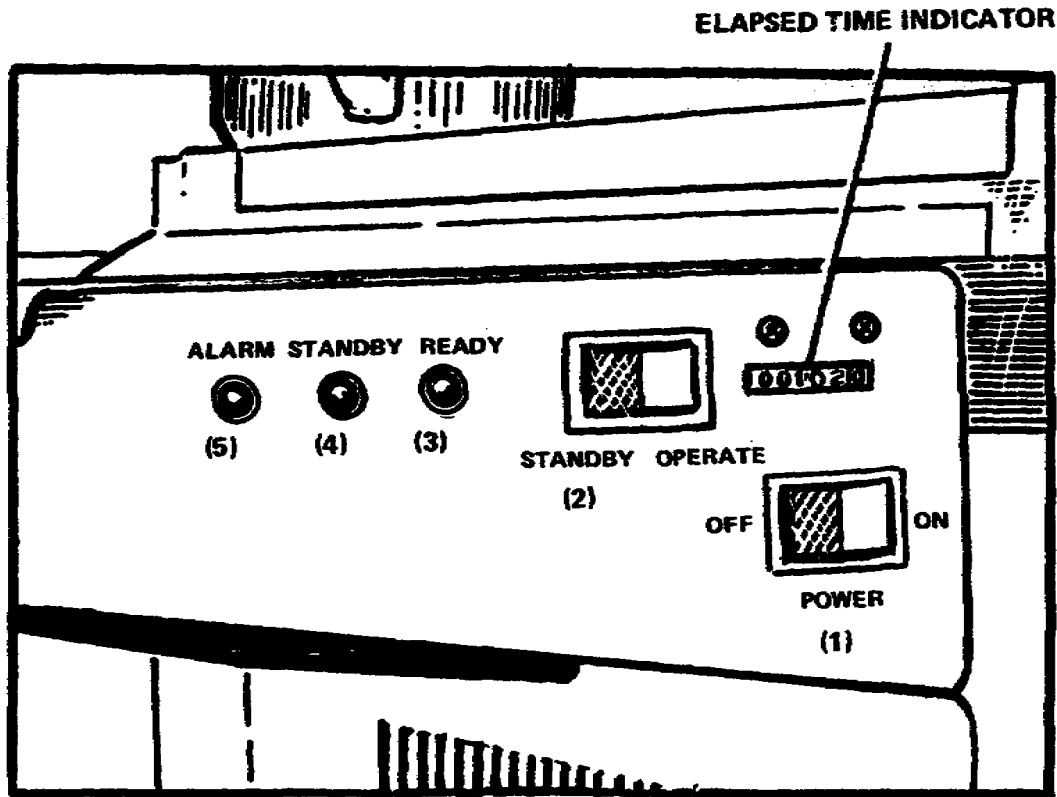

Figure 2-1. Controls and indicators
6. Processor Controls. The controls and indicators of the Kodak Royalprint Processor, Model 417, consist of the following: (fig 2-1).